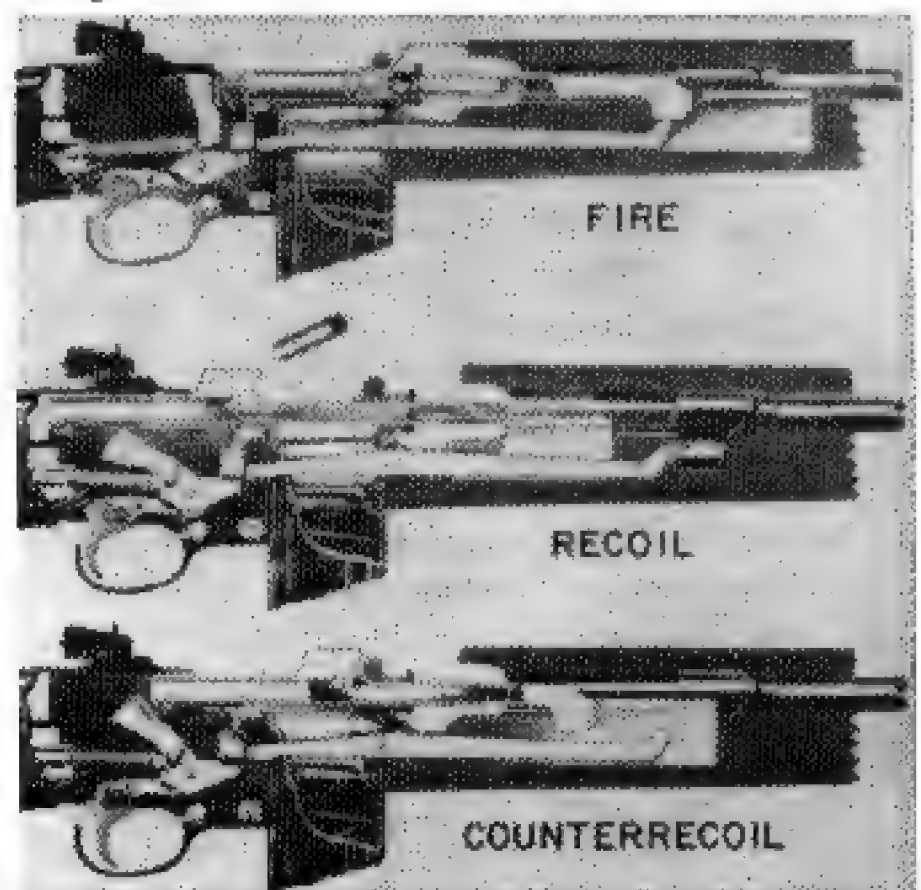

Figure 39. Functioning of operating parts (semi-automatic setting).
*a.* The action as the operating slide moves forward is the same as on the semi-automatic setting (Page 28) and (Fig. 39), up to the time the camming surface on the operating slide contacts the toe of the disconnecter lever. At this point, the operating slide cams down the toe of the disconnecter lever. This raises the rear end of the disconnecter lever, which is in contact with the disconnecter. The forward end of the disconnecter is cammed upward. The disconnecter rotates about the hammer pin, and the projecting leg on the rear of the disconnecter moves downward. With the trigger still held back, the projecting lug of the disconnecter presses against the raised shoulder of the sear and the sear nose is disengaged from the hammer. The hammer spring then rotates the hammer forward, and the carbine fires. This happens every time the operating slide moves forward if pressure is maintained on the trigger (see next column).